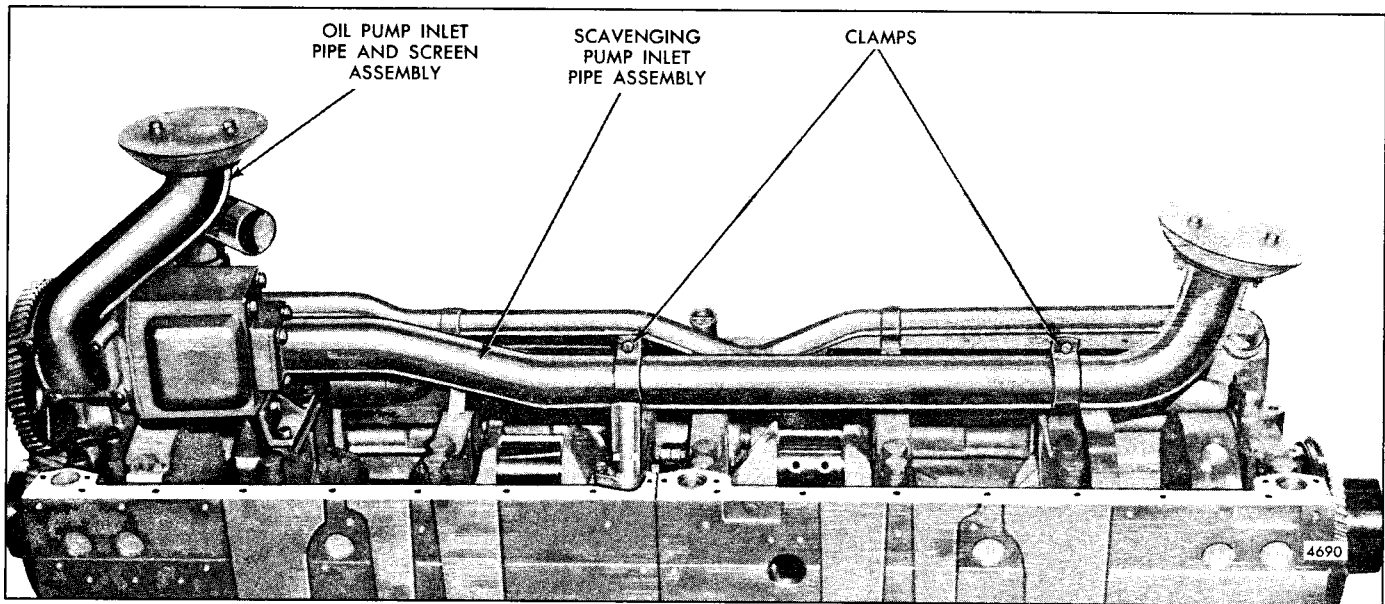

Fig. 2 - Typical Oil Pump Inlet Piping (Rear Sump)
3. Remove the six bolts and lock washers which secure the oil pump outlet adaptor (Fig. 2) to the oil pump and the cylinder block. Remove the adaptor and